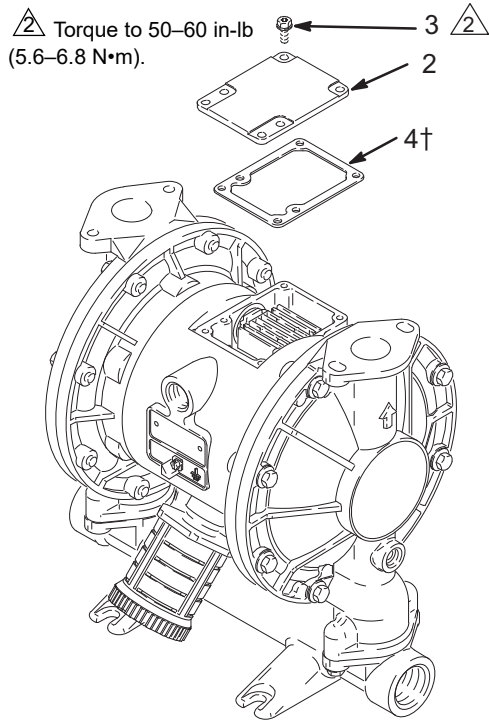

Fig. 8
2. With a Torx (T20) screwdriver or 7 mm (9/32") socket wrench, remove the six screws (3), air valve cover (2), and gasket (4). See Fig. 8.
10. Align the valve gasket (4=) and cover (2) with the six holes in the center housing (1). Secure with six screws (3), using a Torx (T20) screwdriver or 7 mm (9/32") socket wrench. Torque to 50–60 in-lb (5.6–6.8 N•m). See Fig. 8.